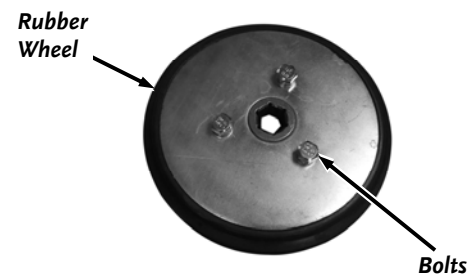

Figure 78
18. Use a 10mm Wrench to remove the three Bolts that secure the Rubber Wheel to the Shift Bearing Assembly and remove the Wheel (**Figure 78**).
1. Install the new Rubber Wheel onto the Shift Bearing Assembly in the orientation shown (**Figure 78**).